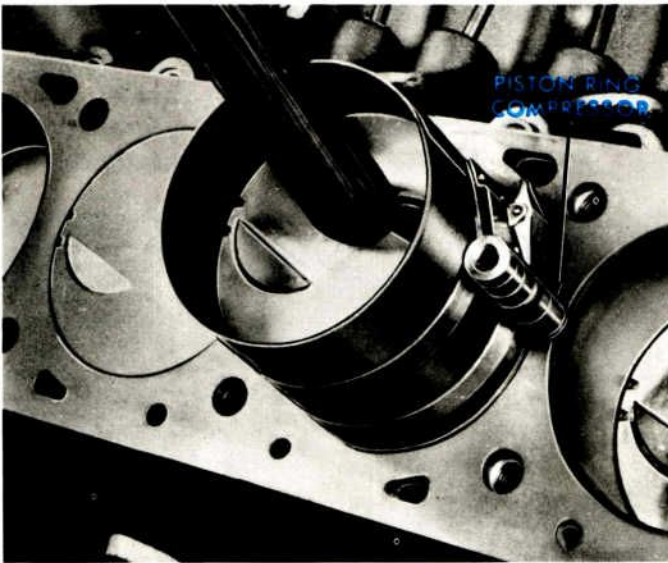

FIGURE A-14. INSTALLING PISTON AND CONNECTING ROD ASSEMBLY
- Install a piston ring compressor on the piston and push the piston in with a hammer handle; observe any marks that indicate front of engine. (See Figure A-14.)